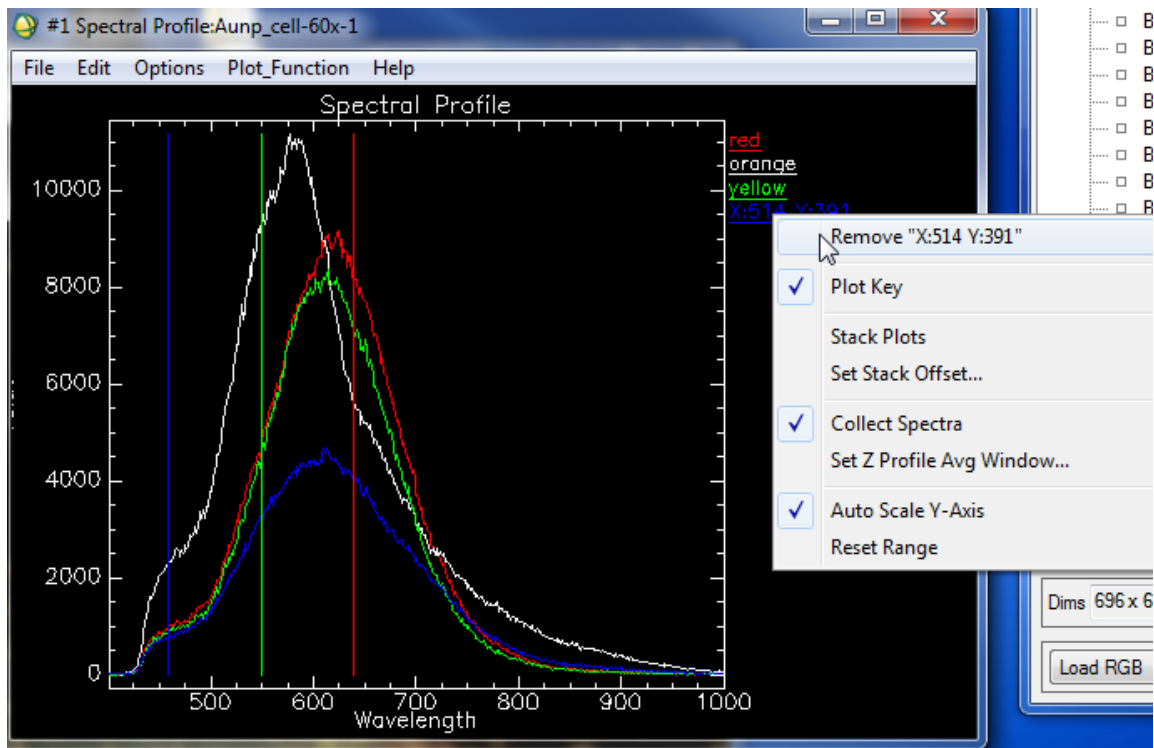

Figure 3.7a. Option list obtained by right clicking on the plot label
- Then click on Remove label (Figure 3.7a).